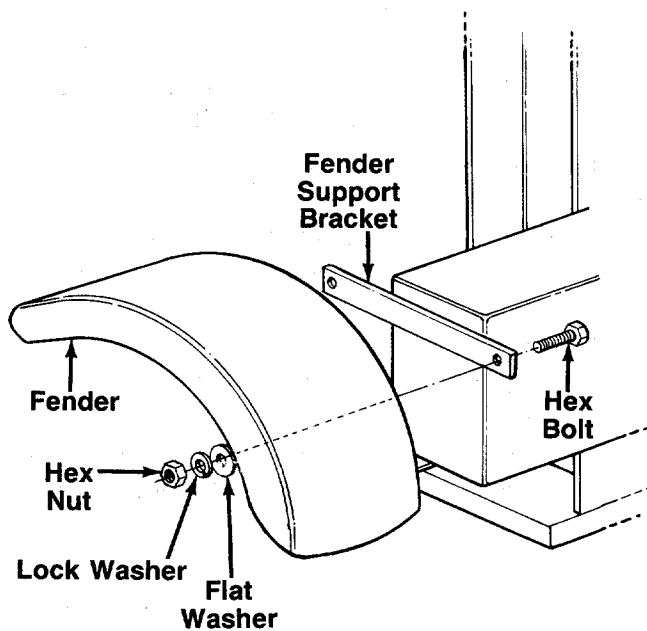

FIGURE 8.
2. Place the fenders in position against the fender support brackets. Insert hex bolts through holes in support brackets and fenders. Secure with flat washers, lock washers and hex nuts. See figure 8.